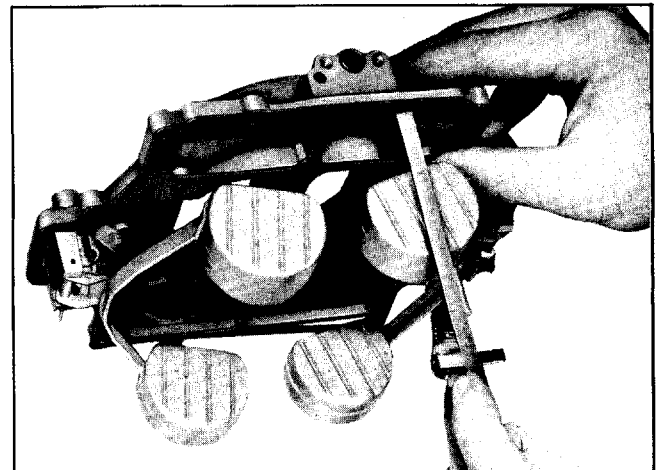

Fig. 6B-130 Checking Float Drop
1. Check distance between air horn and bottom of float with air horn held in upright position (Fig. 6B-130). Float drop is correct when distance between air horn, with gasket installed, and float is $2\frac{1}{4}$ ".